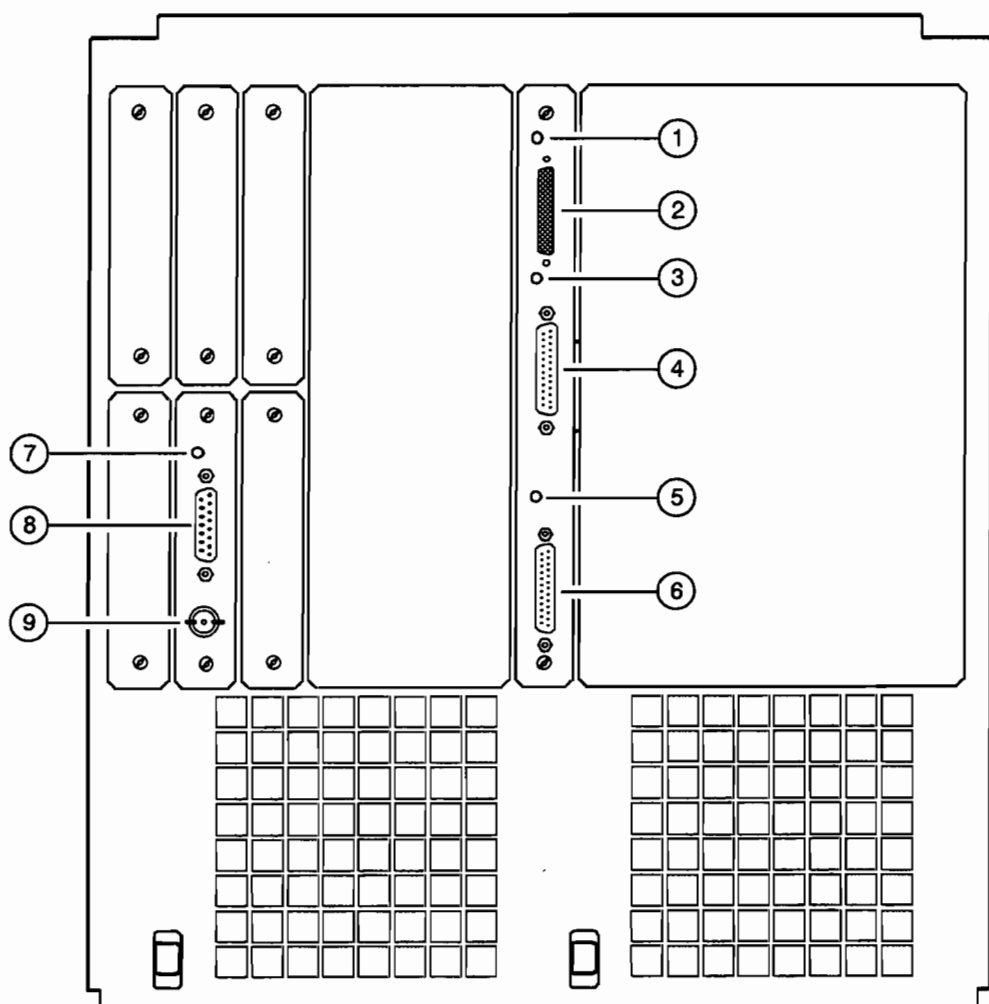

Figure 10-7. HP 9000 827S, 847S, 857S, 867S, 877S, Rear Panel
- Figure 10-7 shows the HP 9000 827S, 847S, 857S, 867S, and 877S.